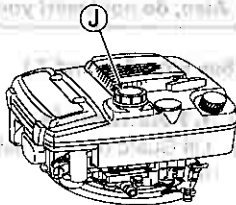

Fig. 9.
- 1 Open Fuel tank cap (J) and refuel gasoline. Immediately wipe off with a rag if gasoline is spilt. (See Fig. 9.)
- 2 Firmly close Fuel tank cap (J) after refueling.